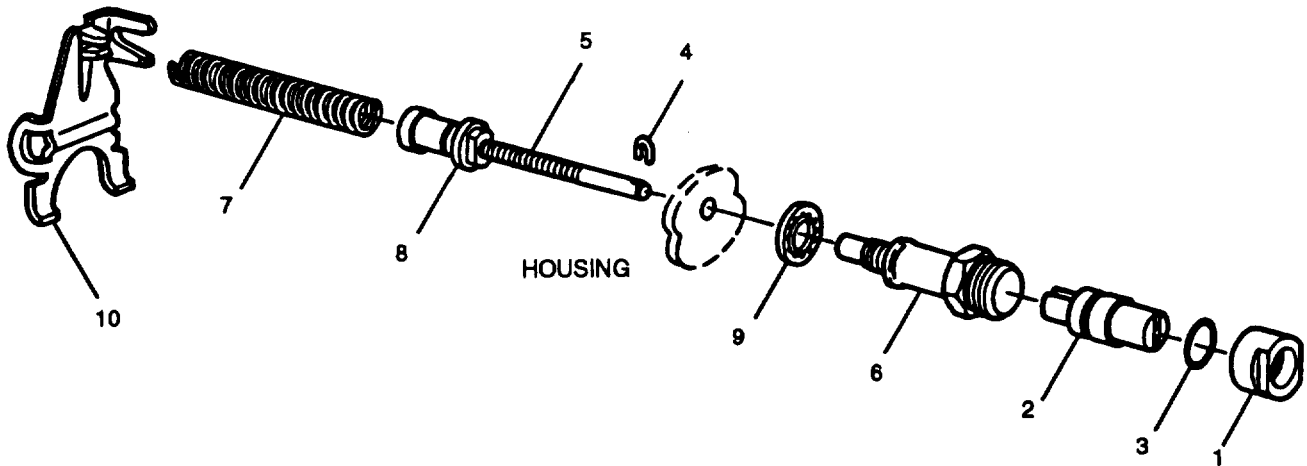

FIGURE 3-46. Speed Droop Governor
**Note location of screw (36) in shaft assembly (18).**
- (1) Remove screw (31), retainer (32), spring (33), lever (34), adjusting arm (35), screw (36), and spacer (37) from shaft assembly (18).
- (2) Remove screw (38), screw (39), and two nuts (40) from shaft assembly (18).
- k. Disassemble droop control (FIGURE 3-46) as follows:
- (1) Remove cap (1).
- (2) Pull adjusting cap (2) straight out. Remove and discard seal (3).
- (3) Remove clip (4) from end of control rod assembly (5).
- (4) Remove guide (6) and washer (9).